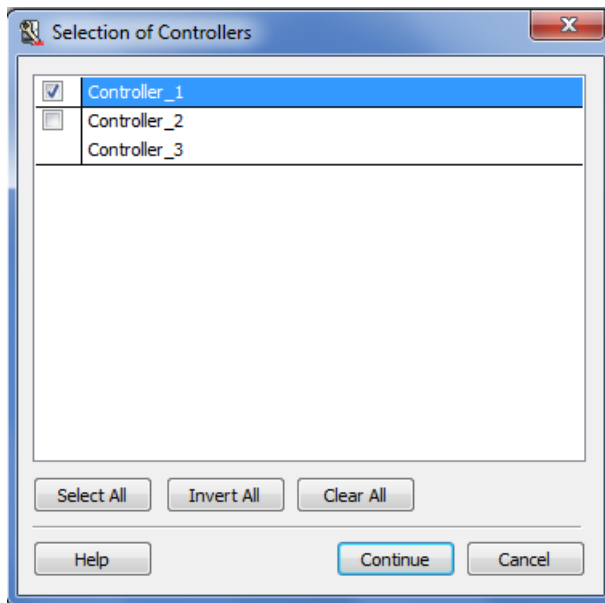

Figure 81. Selection of Controllers dialog
When **Tools > Download Project and Go Online** is selected for a project with more than one controller, the Selection of Controllers dialog is displayed. For example, in Figure 81, “Controller_2” and “Controller_3” cannot be separately selected or excluded since one application is connected to both these controllers.
1. Click **Continue**-button in Figure 81, an Online Analysis window opens.